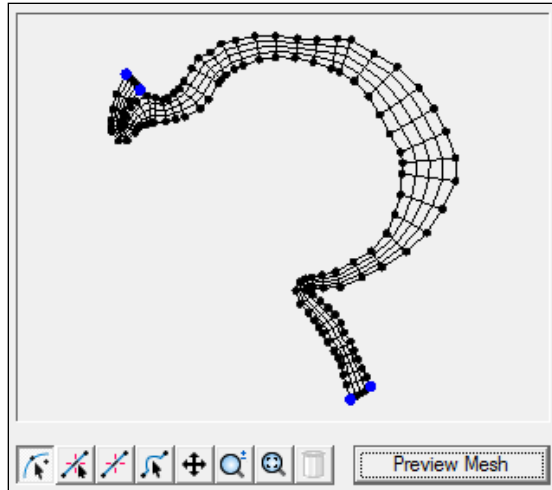

Figure 8 Mesh preview
19. Click the **Preview Mesh** button to see a preview of how the elements in the patch will be created (Figure 8).